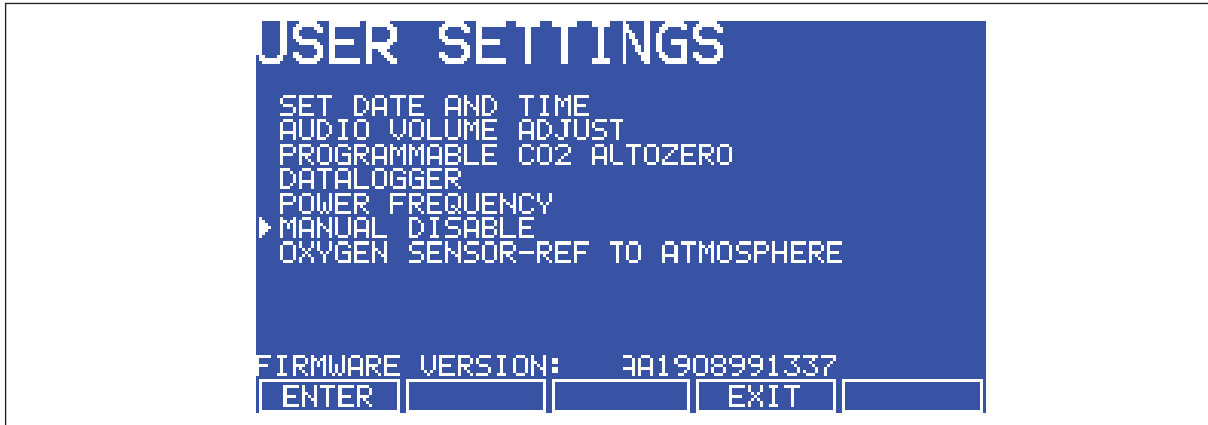

Fig. 13-2: USER SETTINGS Screen
5. Enable the oxygen control: (a) press the **USER** function key, (b) using the ▲ or ▼ direction key, select **MANUAL DISABLE** (see Fig. 13-2 on p. 87), (c) press the **ENTER** function key, (d) select **ENABLE** for Oxygen Control using the ◀ or ▶ direction key, then (e) press the **ENTER** function key.